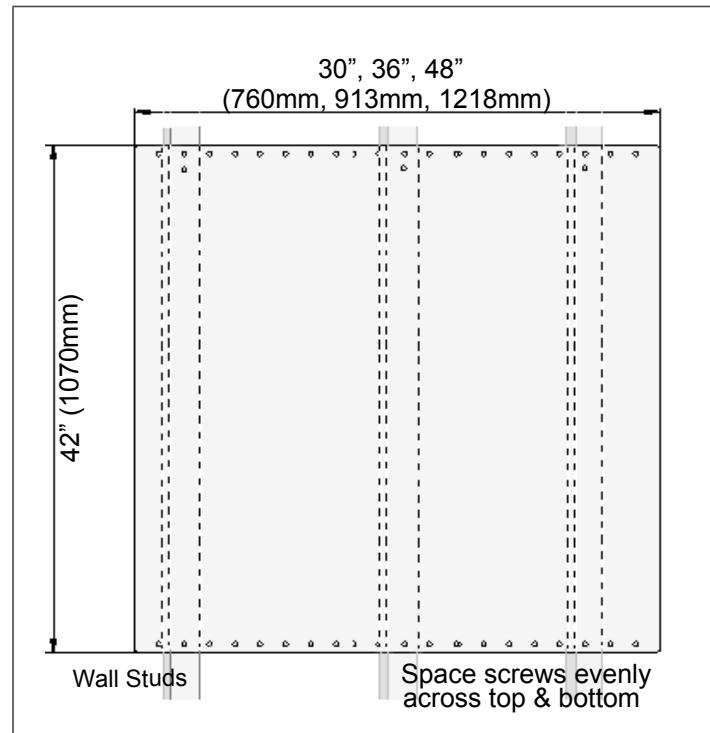

Figure 16: Backsplash Installation
3. Per each wall stud, use (2) of the provided screws to secure both the top and bottom of the backsplash (see Figure 16).